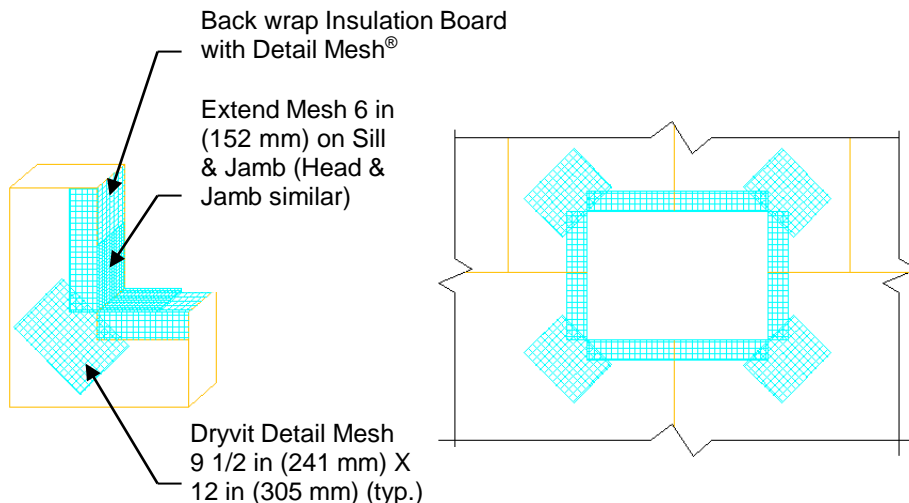

Figure 21
4. Corners of all openings such as windows, doors, mechanical equipment and all penetrations shall be reinforced with Detail Mesh placed diagonally to the opening as illustrated in Figure 21.